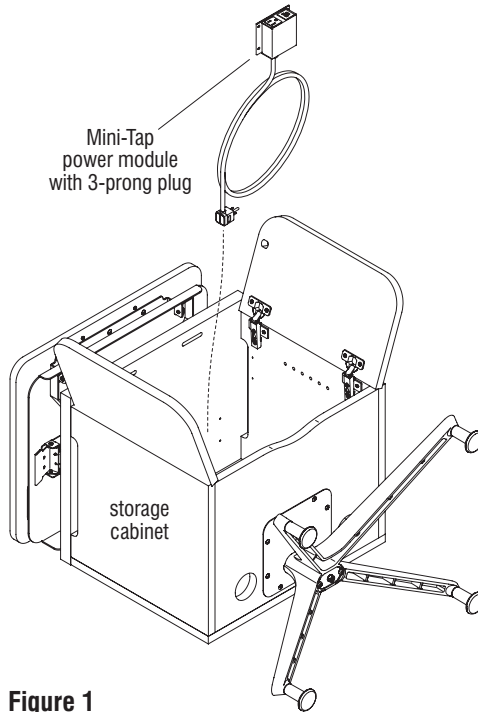

Figure 1
1. Open the doors on the storage cabinet if not open already (Figure 1).